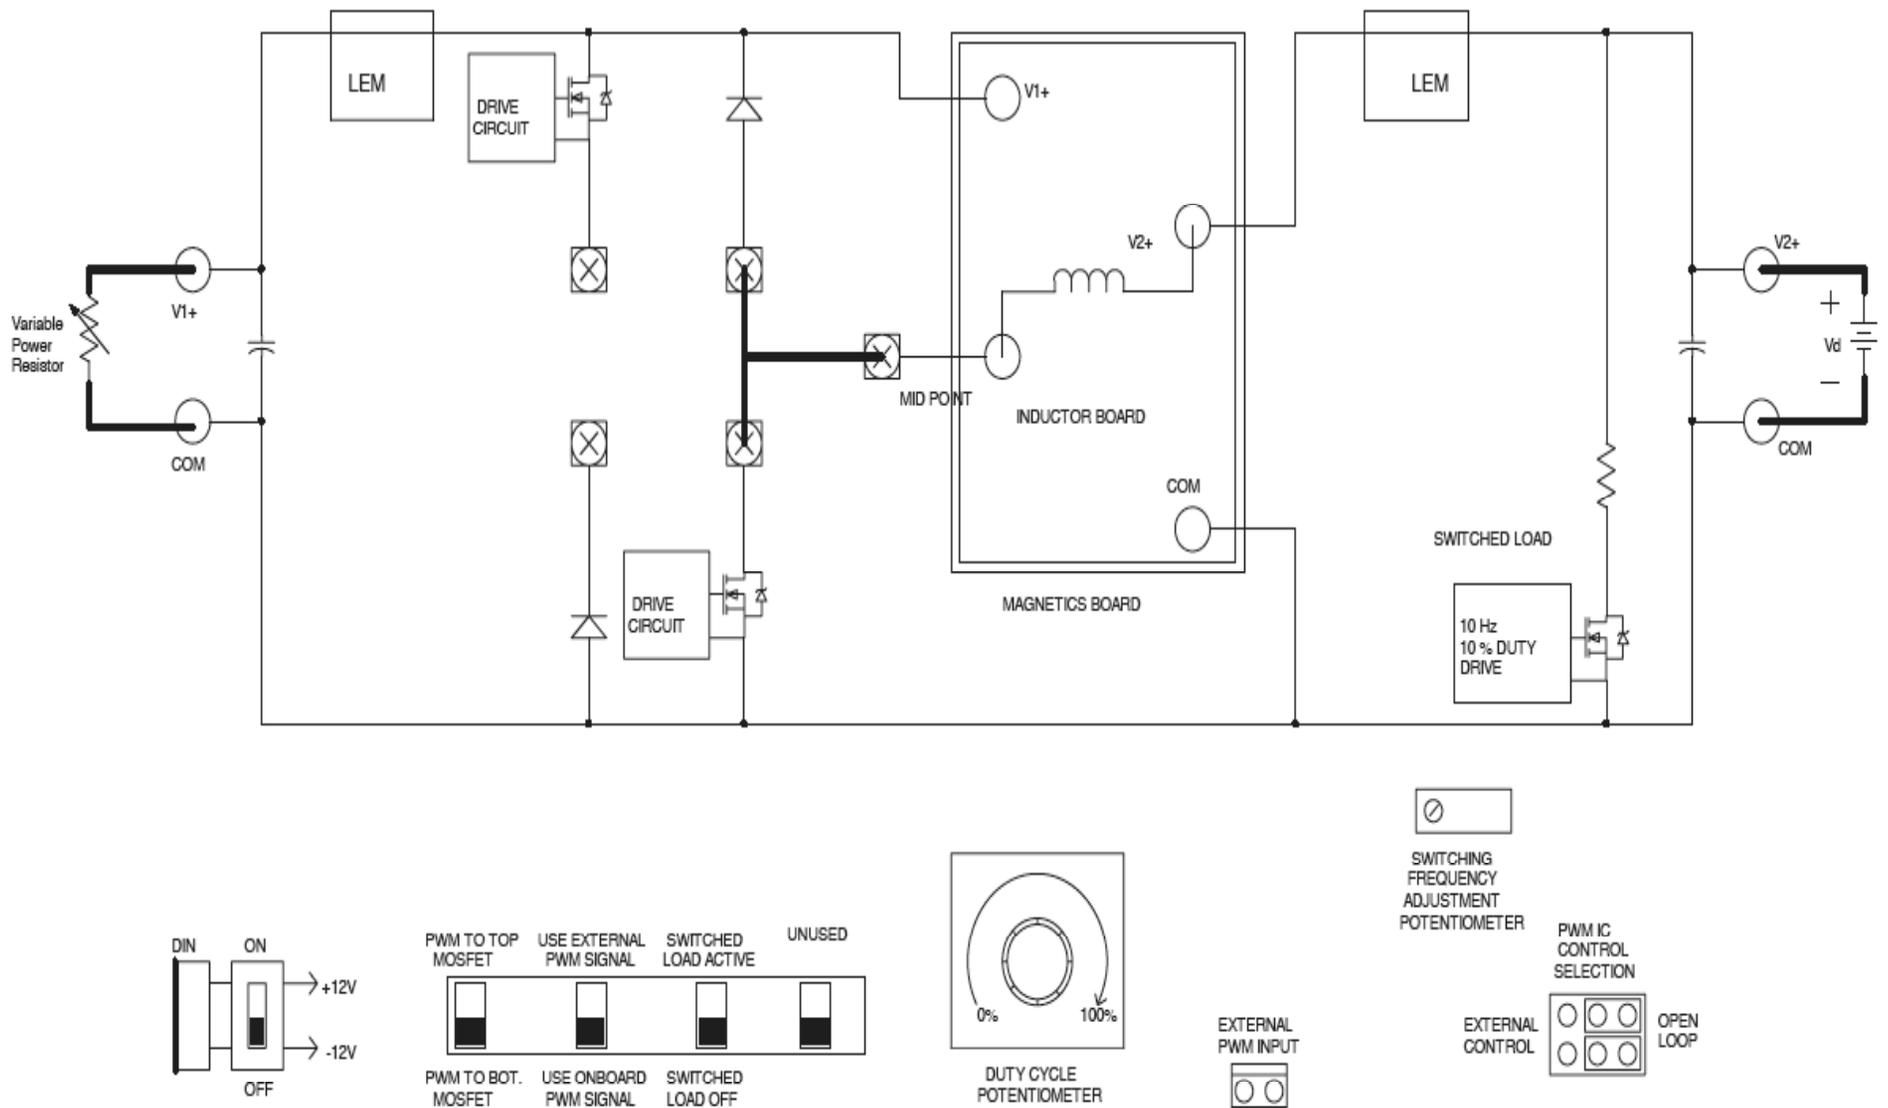

Figure 4.1: Schematic of Boost Converter
Make the connections of the power-pole board as shown in Fig. 4.1 to use the lower MOSFET and the upper diode.
- Confirm that you have connected the input and output terminals correctly to source and load as shown in Fig. 4.1.